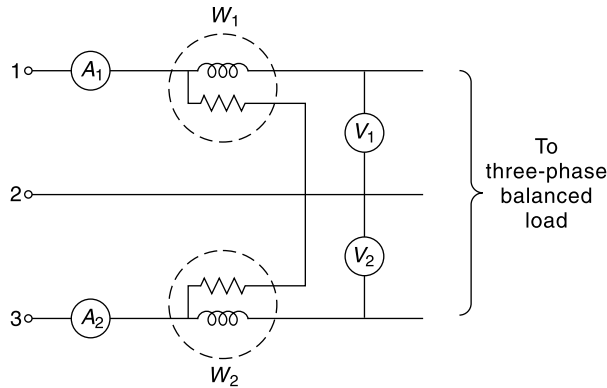

Fig. 4.23 Circuit of Ex. 4.41
4.41 In Fig. 4.23, ammeter A_1 reads 10 A, while A_2 also reads 10 A. Wattmeters W_1 and W_2 read 200 W and 800 W respectively. If $V_1 = V_2 = 400$ V, find the power factor. Also find the KVAR rating of a delta connected capacitor bank to enhance the power factor to 0.85 (lag).